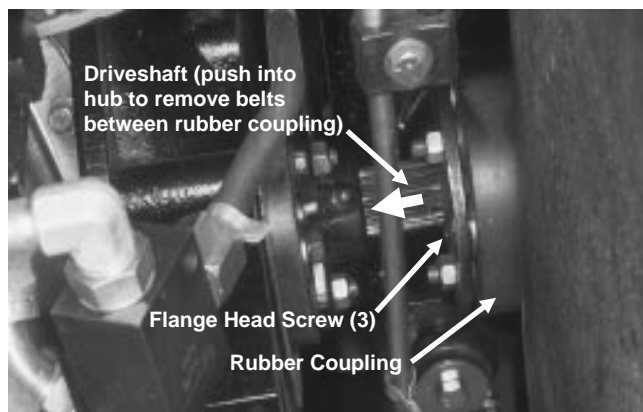

Figure 7
4. Push driveshaft into splined hub, as shown in Figure 7, so belts can be removed between rubber coupling and PTO pulley.